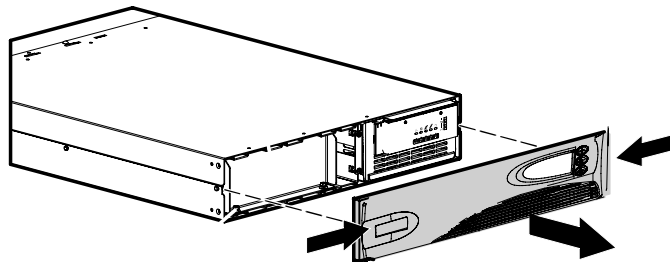

Figure 30. Removing the UPS Front Cover
2. Remove the UPS front cover by pulling on both ends (see Figure 30).